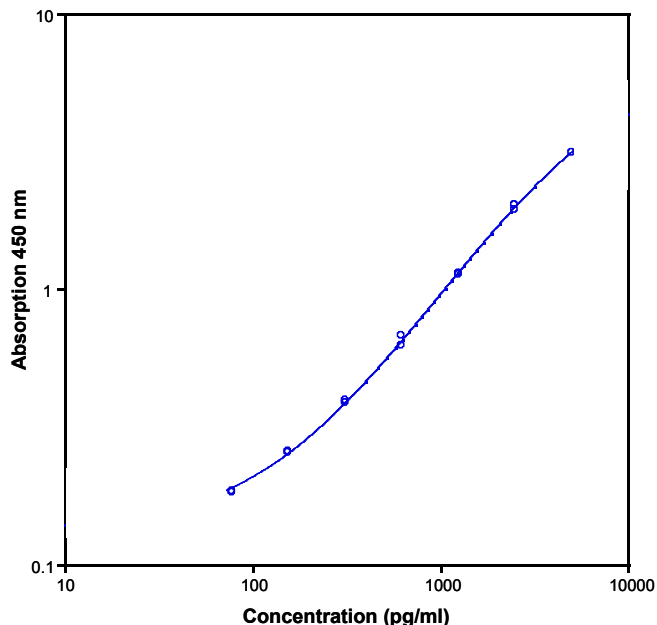

Fig. 8 Representative standard curve for Human VEGF-R2/KDR ELISA Kit. Human VEGF-R2/KDR was diluted in serial 2-fold steps in assay buffer (1x).
- A representative standard curve is shown in Figure 8.